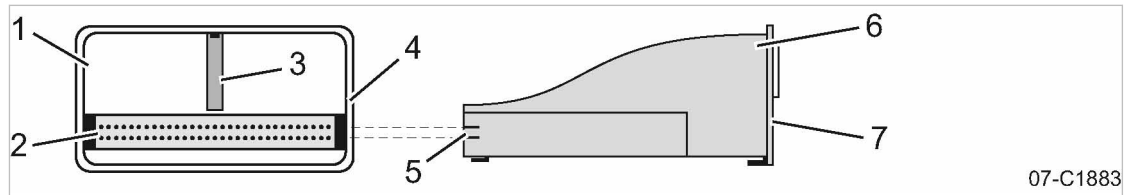

Fig. 32 Inserting the communication module
2. Insert the communication module into the bay of interface X4 [1] until it latches (see Fig. 32).